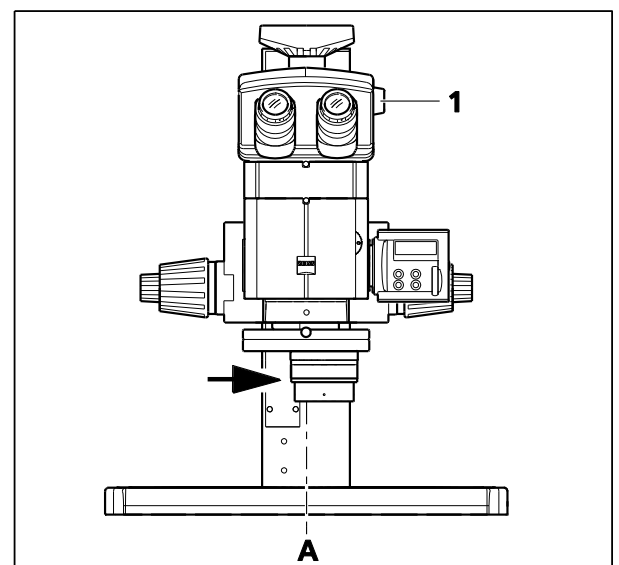

Fig. 38 Objective slider S/doc with ergo phototube
for vertical and monocular imaging, via the right light path, of a specimen detail 12 mm to the right from position **A** (Fig. 38).
- Turn the lever (Fig. 38/1) to the rear position to deflect the light ray to the camera port.